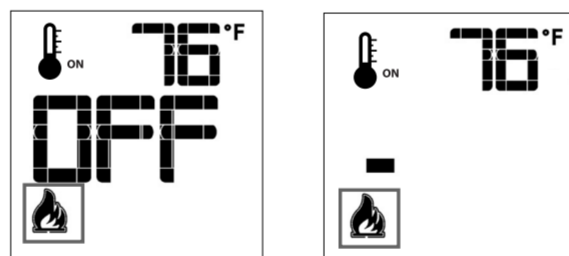

Fig. 7:
The Proflame has six (6) flame levels. With the system on, and the flame level at the maximum in the appliance, pressing the Down Arrow Key once will reduce the flame height by one step until the flame is turned off. The Up Arrow Key will increase the flame height each time it is pressed. If the Up Arrow Key is pressed while the system is on but the flame is off, the flame will come on in the high position. (Fig. 7 & 8) A single "beep" will confirm reception of the command.